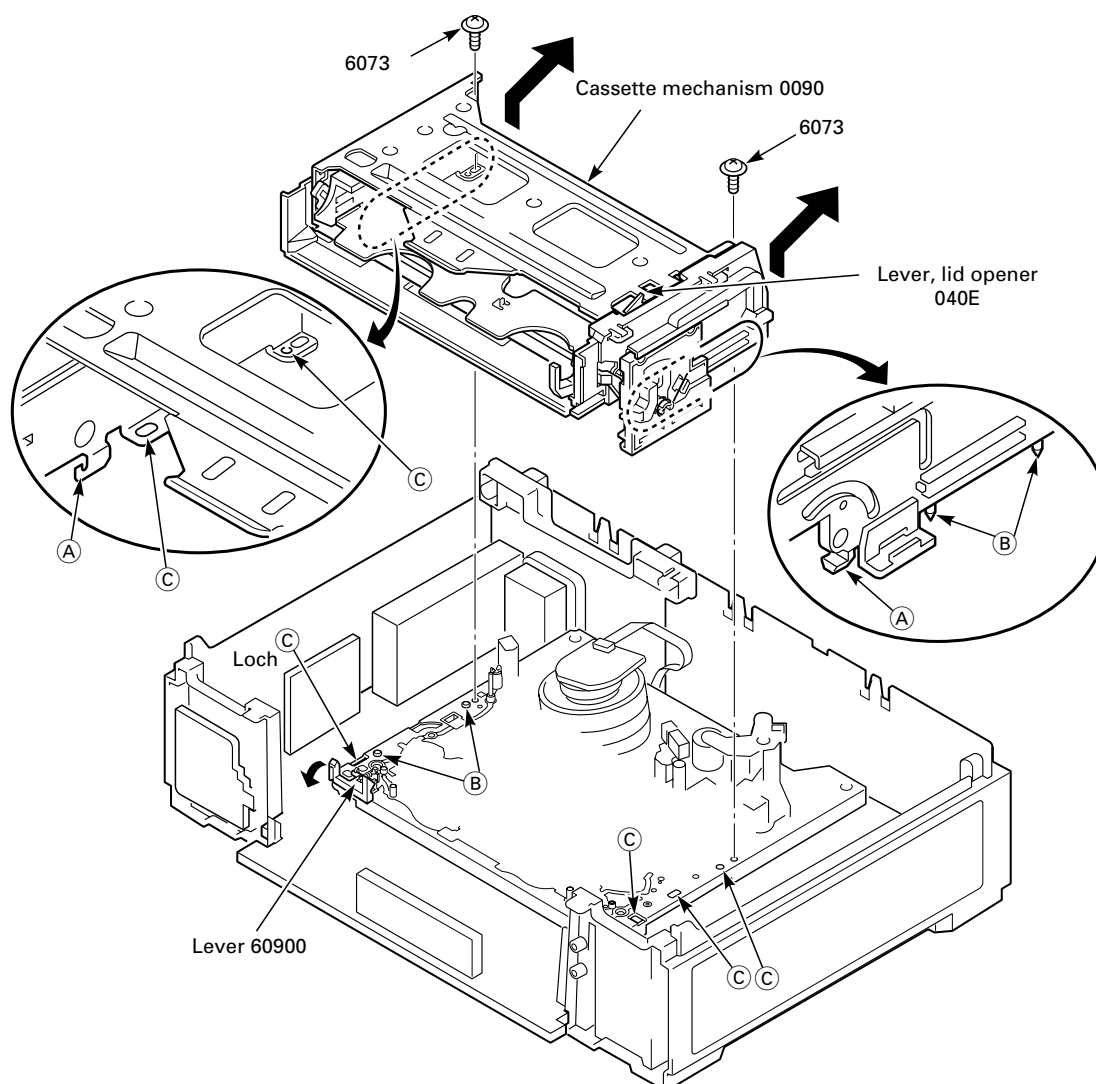

Fig. 8.3
- Undo 2 screws (6073, Fig. 8.3).
Note: When reassembling the cassette mechanism (0090) the lever (60900) must be pressed towards the front. The cassette mechanism (0090) is positioned correctly when the two hooks (A) and the dowels (B) engage with the holes (C) (Fig. 8.3).
- Press the lid opening lever (040E, Fig. 8.3) to release the lock and lower the tray (040A, Fig. 5.1).